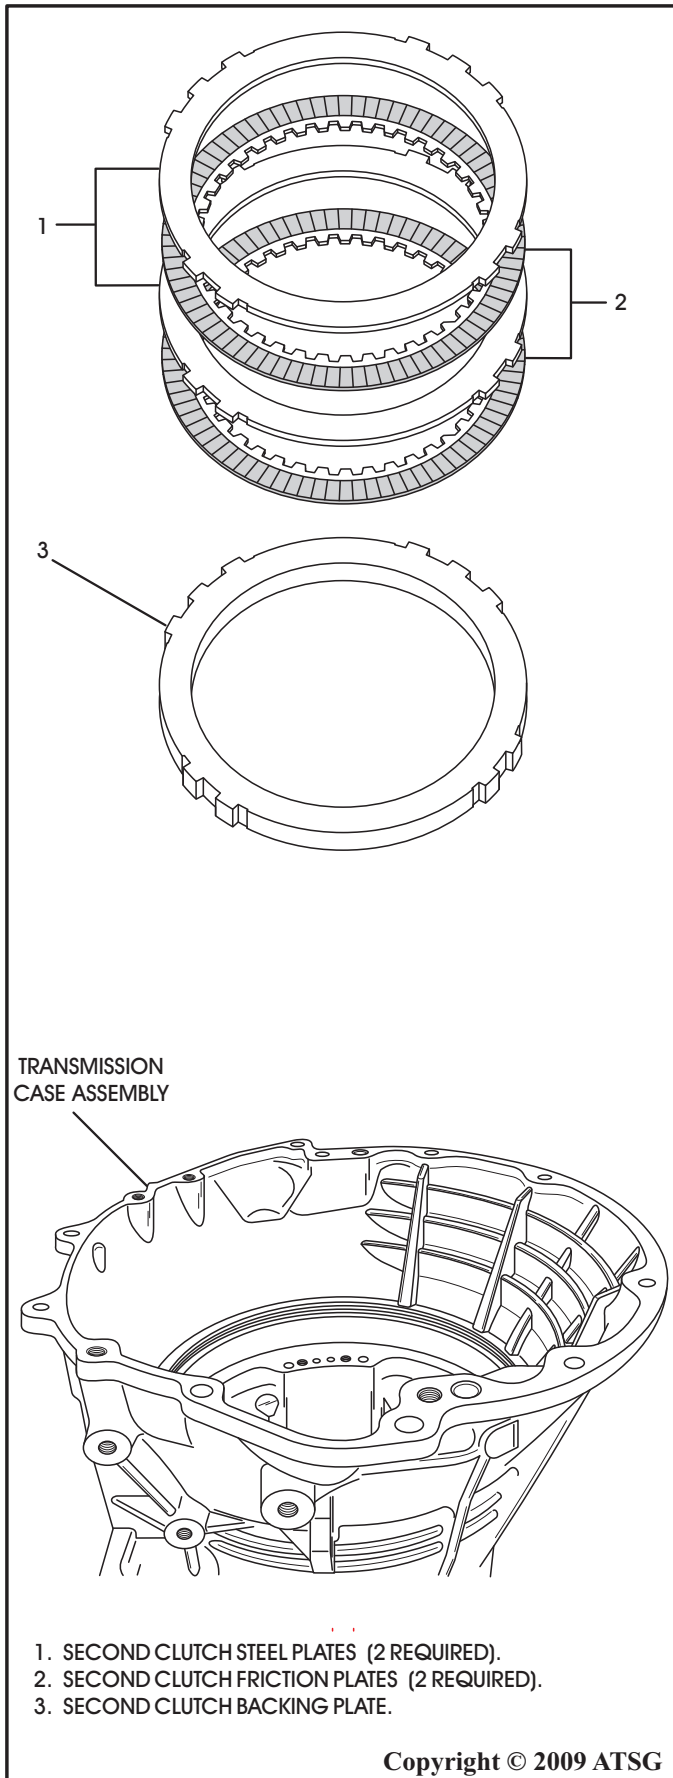

Figure 108
2. Install the 2nd clutch backing plate into the transmission case as shown in Figure 108.
3. Install the 2nd clutch pack that you are going to use, beginning with a lined plate and alternating with steel plates until you have installed 2 lined plates and 2 steel plates (See Figure 108).